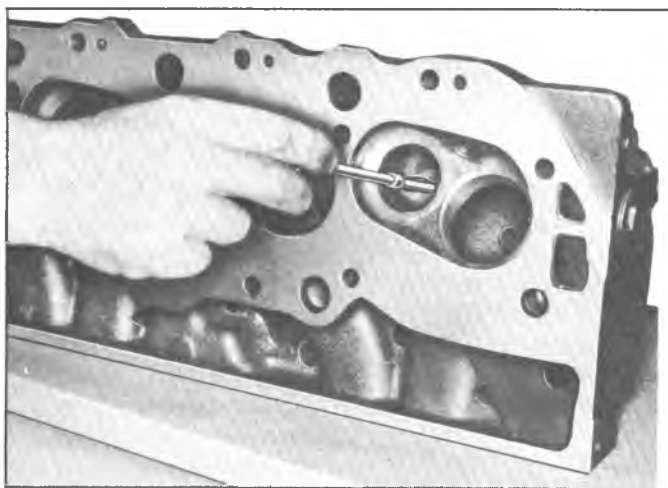

Fig. 15—Cleaning Valve Guides
2. Thoroughly clean the valve guides using Tool J-8101 (fig. 15).